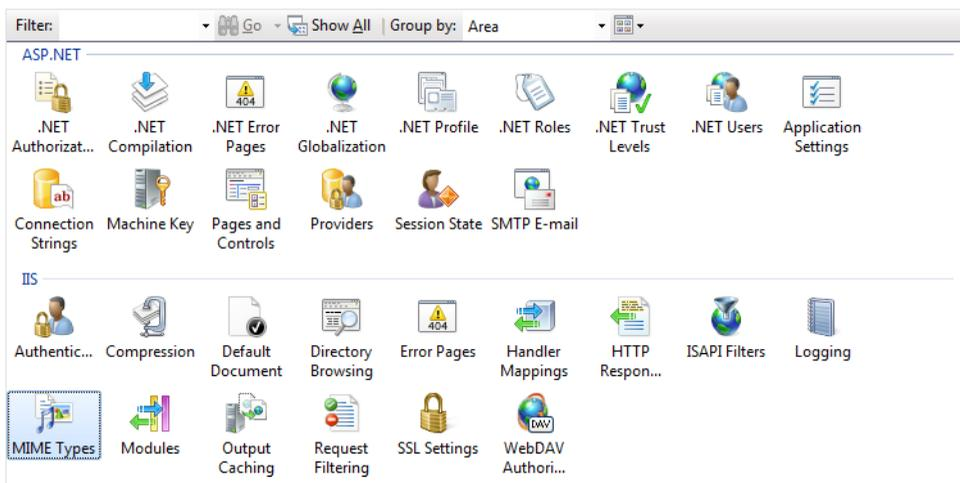

FIGURE 2-13 IIS MIME Types
Step 1 In the IIS Manager, double-click MIME Types, as shown in Figure 2-13.